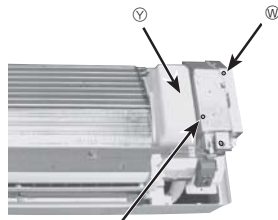

Fig. 6-4
- 5 Remove the front and side electrical box covers (each 1 screws). (Fig. 6-4)
- 6 Remove the water cut. (Fig. 6-4)